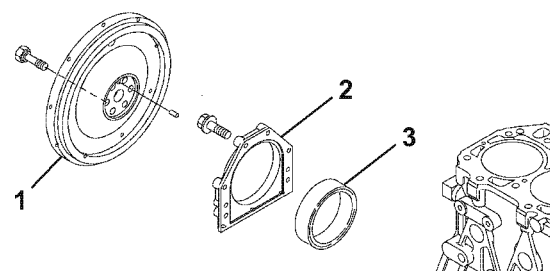

Figure 6-139
7. Apply ThreeBond Liquid Gasket No. 1212, YANMAR Part No. 977770-01212 to the mounting flange of the seal housing (2, **Figure 6-139**).
10. Reinstall the flywheel (1, **Figure 6-139**) and tighten the bolts to the specified torque. See *Special Torque Chart on page 6-21 for specifications*.